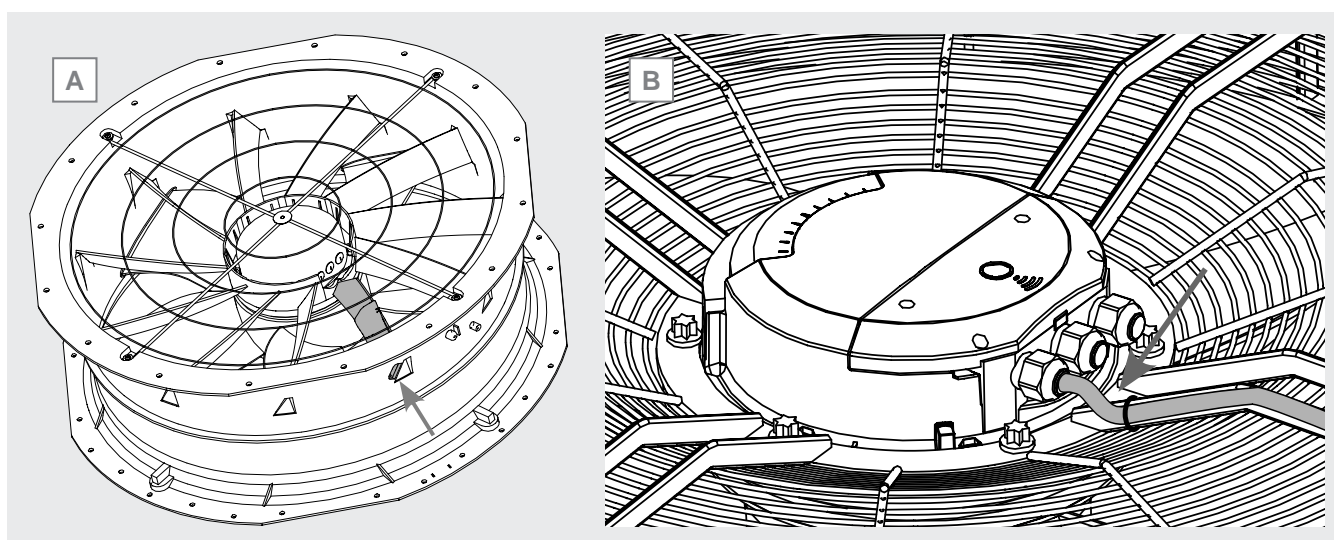

Figure 38
- 12.20.18 Secure the power cable with electrical ties to the grille (radial or planar-mounted motorfan) or to the appropriate cable routing bracket (motorfan with integrated fan shroud). See Figure 38 A.
- 12.20.19 The cable entering the cable gland of the electrical box should be fixed in such a way as to form a U. See Figure 38 B.